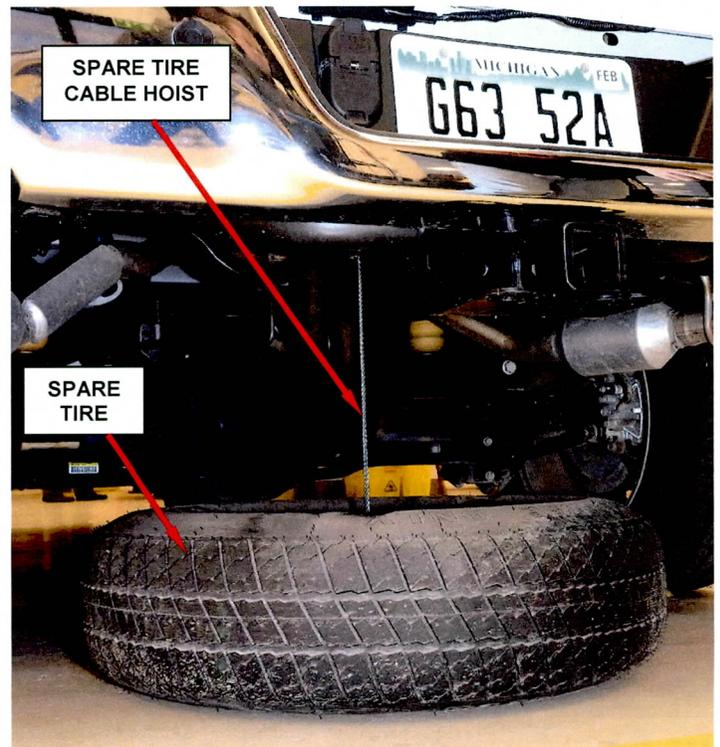

Figure 4 – Return Spare Tire to Stowed Position
14. Place the new spare tire/wheel assembly into position under the vehicle (Figure 4).
15. Connect the spare tire cable hoist to the spare tire (Figure 4).